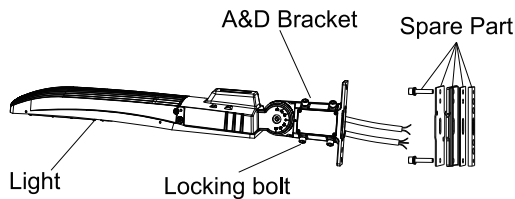

Figure 14
Step 1: Remove the spare parts from A&D bracket. (Figure 14)